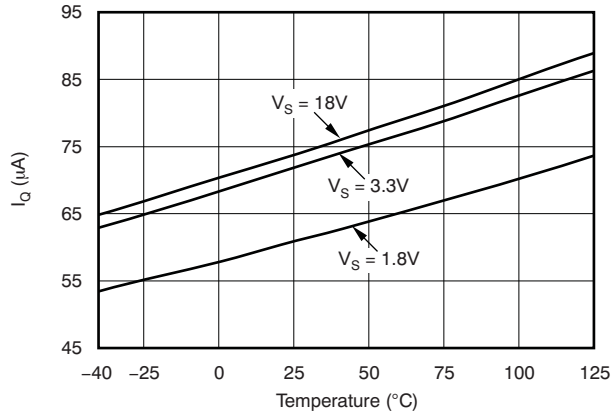

Figure 1.
(1) 100% of production is tested at  $T_A = +85^\circ C$ . Specifications over temperature range are ensured by design.
(2) See Figure 1 for typical quiescent current.
(3) Available Q4, 2007.